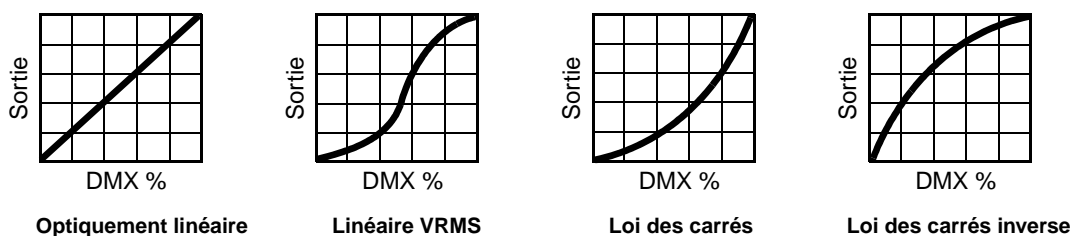

Figure 11: Courbes de gradation
- **DIMMING CURVE** fournit 4 courbes de gradation (voir Figure 11):